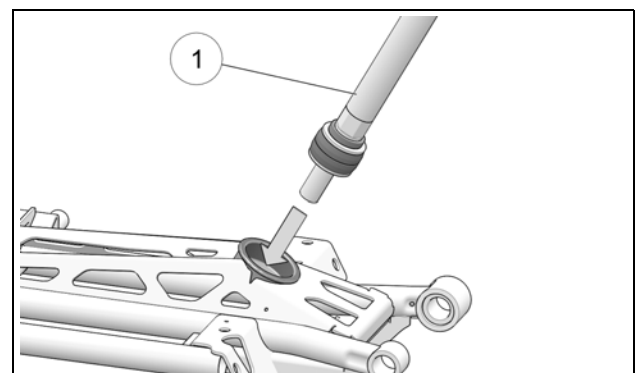

Figure 9
- As shown in the illustration below, insert Strut Rod (1) in the hole at the front of the frame, keeping the rubber dampers in the order they were assembled in the preceding step. See Figure 9.